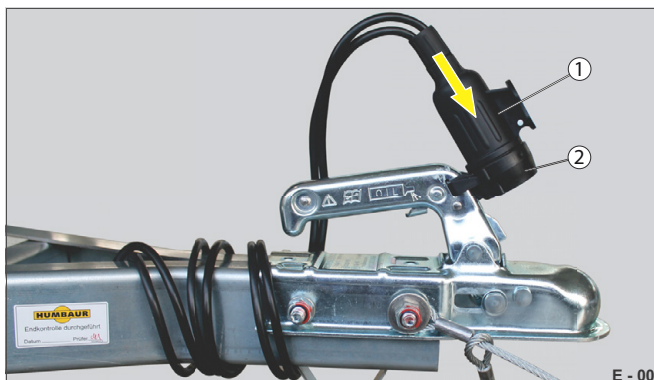
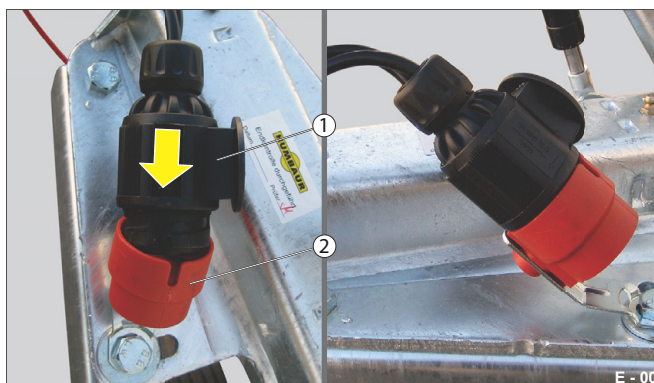

Fig. 5 7-pin plug parked
Fig. 6 13-pin plug parked
- ▶ Plug the plug (Fig. 5 /1, Fig. 6 /1) into the parking socket / parking bracket (Fig. 5 /2, Fig. 6 /2). Make sure that the plug is firmly in the parking socket - twist it in slightly.